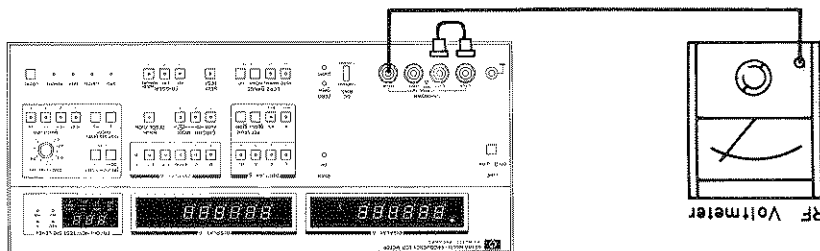

Figure 4-2. Test Signal Level Variable Range Test Setup.
2. Connect BNC to BNC cable to 4274A UNKNOWN HCUR terminal and to RF voltmeter input as shown in Figure 4-2.